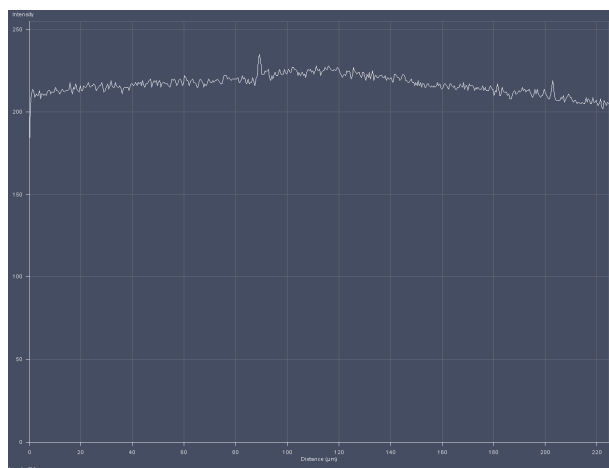

Fig. 9-18 Line diagram at upper cover slip surface
- Having cautiously moved over a short distance the line position will decline again to a minimum and then rise again to a second maximum (Fig. 9-18), which corresponds to the upper cover slip surface.